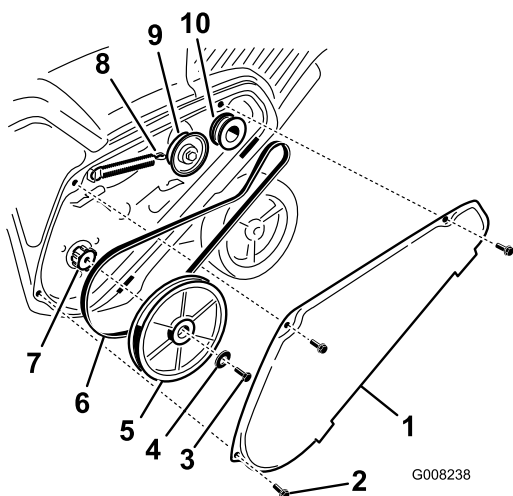

Figure 28
1. Remove the drive-belt cover by removing the 3 bolts as shown in Figure 28.
- Unhook the brake spring from the idler arm to release the belt tension (Figure 28).
- Remove the screw and curved washer that holds the rotor pulley (Figure 28).
- Remove the rotor pulley and the drive belt (Figure 28).
Note: Route the new drive belt first around the engine pulley, then the idler pulley, and finally around the loose rotor pulley positioned just above the rotor shaft (Figure 28).
- Install the rotor pulley onto the rotor shaft (Figure 28).
- Install the curved washer and the rotor-pulley bolt and tighten them securely (Figure 28).